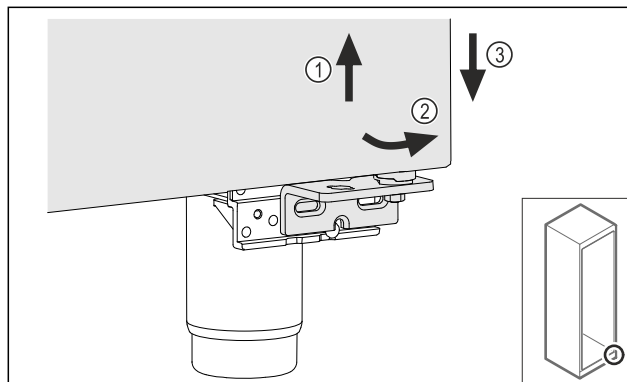

Fig. 21
- ▶ Lift the door slightly Fig. 21 (1), tilt it forwards at the bottom Fig. 21 (2) and lower it Fig. 21 (3).